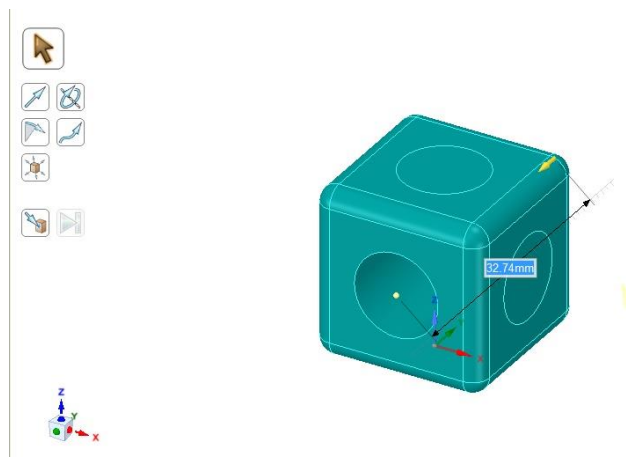

Fig. 2-15 Pulling and cutting
Step 5: Select Pull in the Edit tool, left click the plane with the circle, pull along the direction of the arrow toward the inside, pulling the distance needed to more than the length of the cube, which is 20mm. And then left click the blank space, a hole will appear in this side of the cube, as shown in Fig. 2-15.